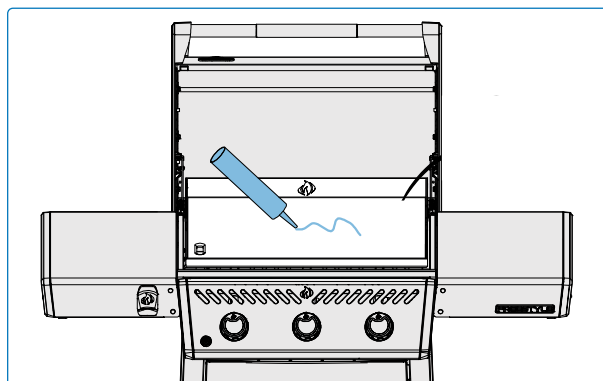

Fig. 9
- The griddle plate should be oiled before cooking to prevent food from sticking. **(Fig. 9).**